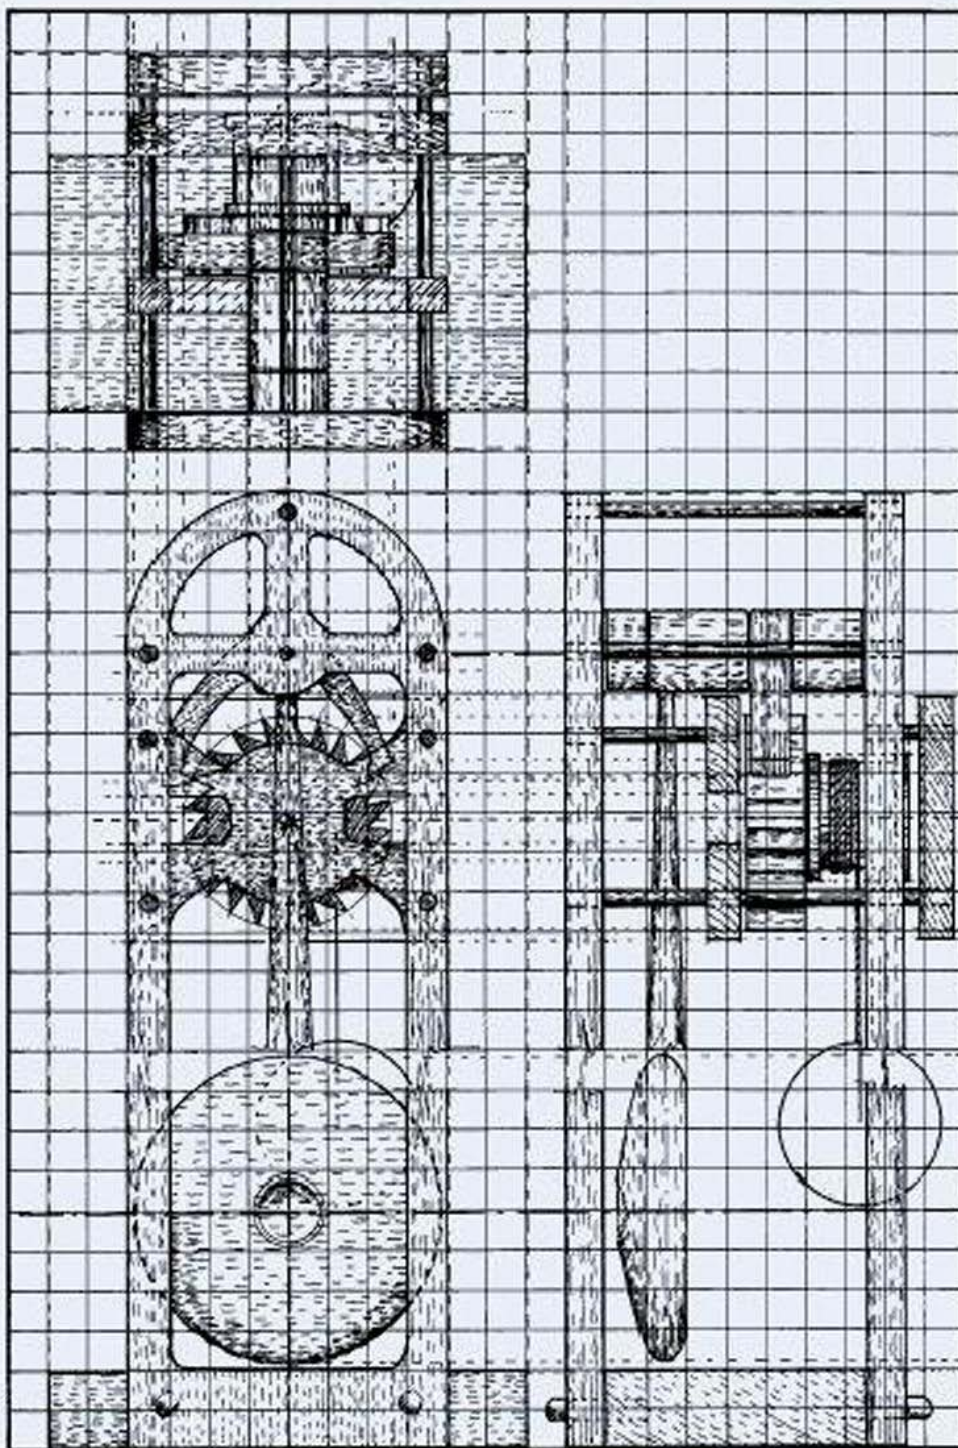
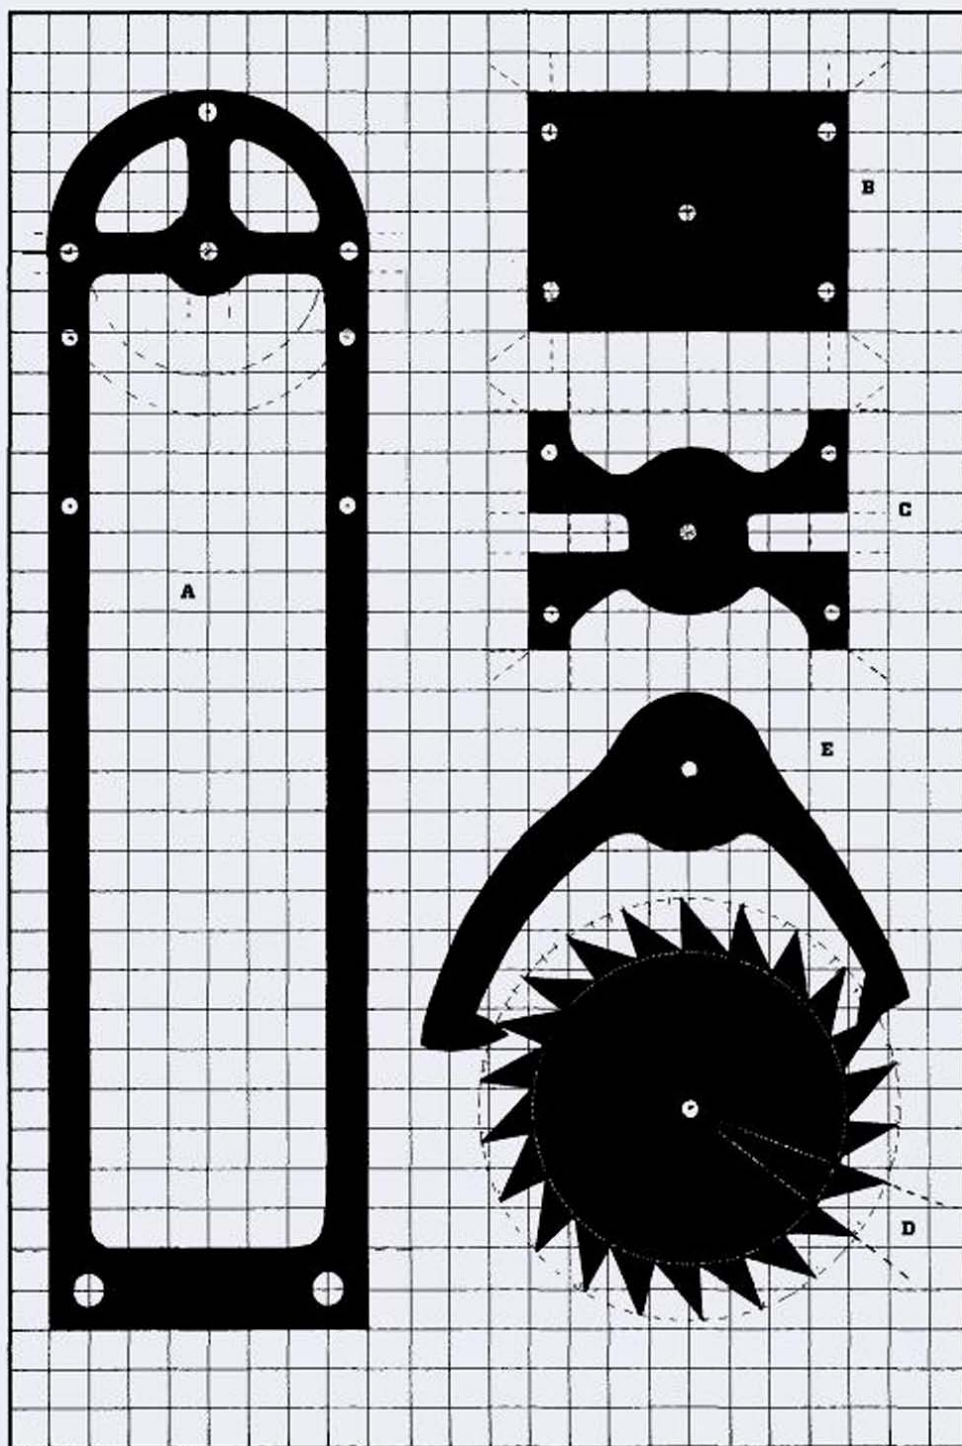

FIGURE 13-1
FIGURE 13-2
1 Have a good, long look at the working drawing (Fig 13-1) and the templates (Fig 13-2), and study the two views. Note that we have cut through the views—through the height—so they fit on the page. Study all the illustrations—the photographs and pen drawings—until you are completely clear in your own mind as to how the various parts of the project come together.
- 1** Start by looking at the working drawing (Fig 13-1) and templates (Fig 13-2) and noting that the escapement mechanism is made up of three primary components—the toothed wheel, the anchor with the finger pallets and the cord drum—all supported on pivots and rods.
- 2** Now take your chosen piece of prepared $\frac{3}{4}$ "-thick wood and use the pencil, ruler and compasses to mark the lines that make up the design (Fig 13-2). Draw the two circles—the large outer circle and the inner circle—run 22 equal step-offs around the outer circumference, and then draw radius lines and diagonal lines across the resultant intersections, all as illustrated. Although it's easy enough to work out with a calculator that each of the 22 step-offs springs from a part-circle angle of 16.3636° , meaning 360 divided by 22 equals 16.3636 , it's not so easy to divide up the circle as drawn on the wood. We found that the best procedure is to set the dividers to a guesstimate size and then to fix the size of the step-offs by trial and error.
6 When you prepare to make the anchor, first have a look at the working drawing (Fig 13-1) and the templates (Fig 13-2), and see that the characteristic asymmetrical profile needs to be cut with a fair degree of precision.
1 Have a look at the working drawing (Fig 13-1), and see that the pendulum is made up of two component parts: the disk or whorl, and the long arm. Note how the arm is shaped so that most of the weight occurs at the disk end.